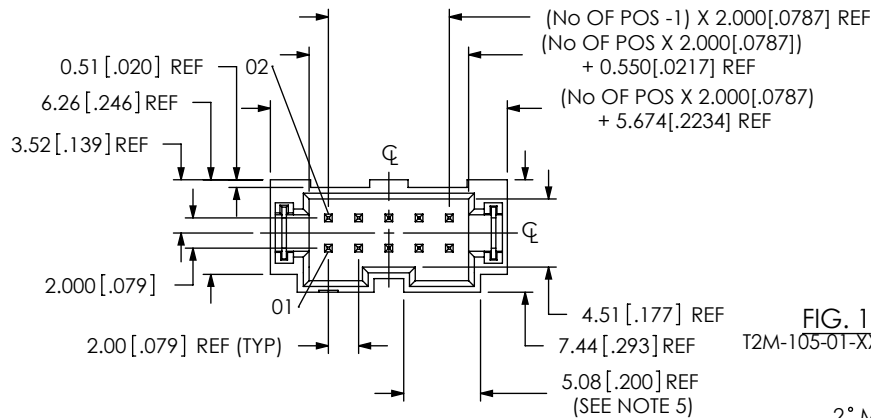

FIG. 1
(SAME AS FIG. 1, EXCEPT AS SHOWN)
-TH: THROUGH HOLE (SEE FIG. 1, SHEET 1)